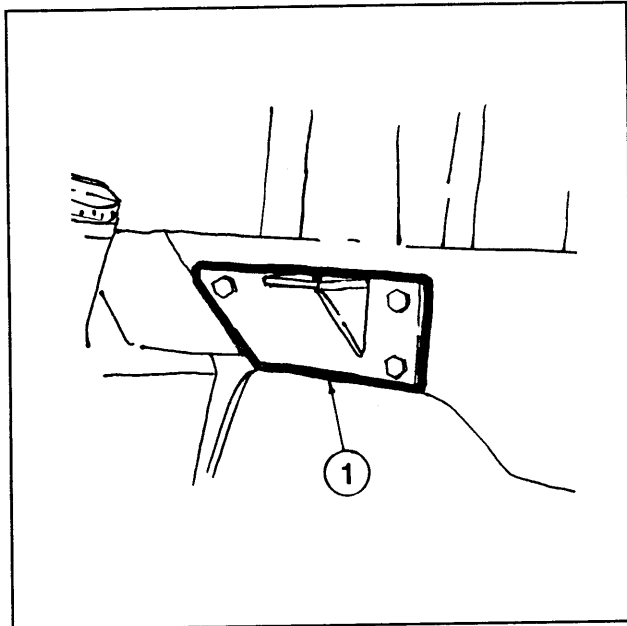

Figure 1
2. Locate the three-hole bolt pattern in the chassis, directly behind the left fender. Take the left rear bracket (1) and loosely bolt it to the chassis using the 1/2"x1 1/2" hex bolts and lockwashers supplied. (see figure 1)